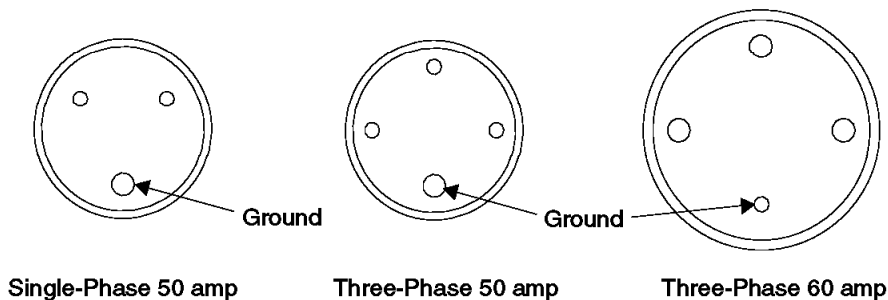

Figure 85. Male Plug on the Mainline Power Cable (t007096l)
- ___ 7. Prepare the multimeter to measure 0.1 ohm or less resistance. For connector information, refer to Figure 85 on page 106.